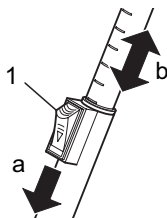

Fig.4
4. Adjust the length of the telescopic tube. To do this, press the telescopic tube lock (Fig. 4/1) forwards (Fig. 4/a). Then pull the telescopic tube by the handle (Fig. 1/1) to the desired length (Fig. 4/b). To lock it, release the telescopic tube lock when you let go. You will hear an audible click.